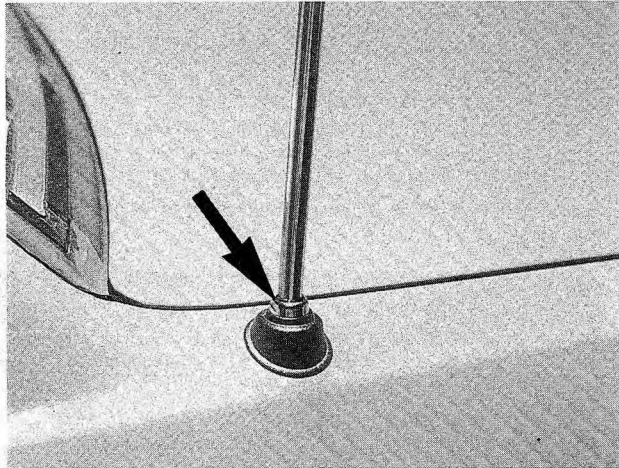

Fig. 4-15. Antenna mast clamping nut (arrow).
1. Turn on the radio to extend the mast as far as possible, then loosen the mast clamping nut shown in Fig. 4-15.